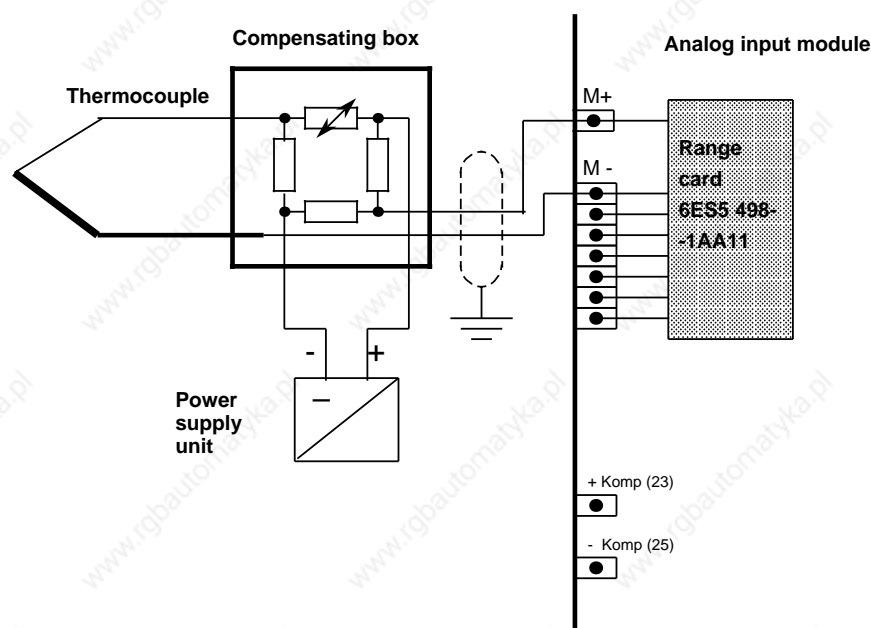

Figure 10-5. Connecting a Compensating Box to the Input of an Analog Input Module
- Run the remaining terminal leads from compensating box and thermocouple to the analog module (terminal M+ and M - see Figure 10-5).